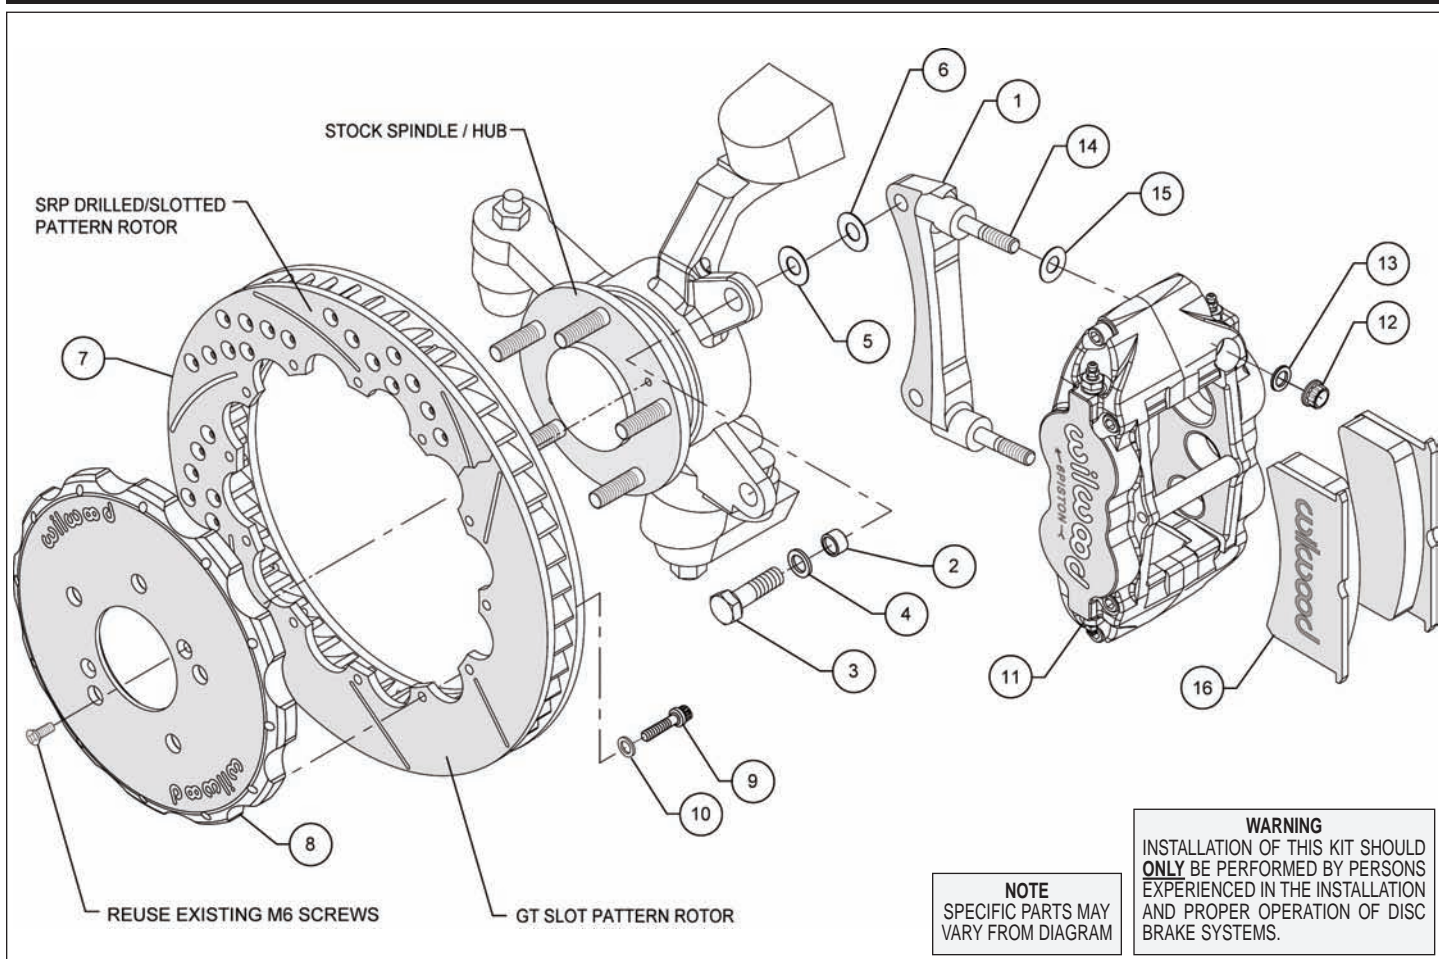

Figure 1. Typical Installation Configuration
- The caliper mounting bracket assembly (1) should be installed first with clean, dry threads on the mounting bolts. Install the bracket on the back side of the spindle by sliding bolt (3) through washer (4), and through sleeve (2) which will be inserted into the spindle "ears" from the front side of spindle. Place shim washers (5 and 6) between the bracket (1) and the spindle (see Figure 1). The bracket must tighten squarely against the side of the spindle body. Inspect for interference from casting irregularities, machining ridges, burrs, etc. Use one thin shim (5 and 6) between the bracket (1) and spindle during initial trial fitting.
- NOTE:** This kit contains distinct right and left hand calipers that must be mounted in a specific direction, as described below. Lubricate caliper mounting studs (14) and nuts (12) with lightweight oil. Install one shim (15) over each stud (14) on the radial mount bracket (1). Slide the caliper (11) in place over the studs and rotors and install the washer (13) and lock nut (12) to hold the caliper in place, Figure 1. Ensure that the caliper is mounted so that the largest pistons are at the rotor exit end of the caliper, in relation to the direction of rotor rotation. Snug the lock nuts (12) and check that the rotor (7) is centered in the caliper (11). Add or subtract .016" shims (5) and/or .030" shims (6) as necessary between the caliper mounting bracket (1) and the spindle to center the caliper (11) on the rotor (7). Finger tighten and recheck alignment. Use as many shim washers (combination of 5 and/or 6) as necessary to achieve the correct alignment.
- Remove the caliper center bridge pad retainer bolt, nut, and tube from the caliper. Slide the brake pads (16) into place. They should install easily without interference. Check that the outside radius of the brake pad is aligned with the outside diameter radius of the rotor face. Add or subtract shims (15) between the caliper and mount bracket to gain the proper alignment. Reinstall the center bridge pad retainer tube, bolt, and locknut. The locknut should be snug without play in the bolt or tube. Be cautious not to over tighten.
- Once all clearances have been checked, remove the wheel, caliper, hat, and rotor from the spindle and hub. Secure the caliper mounting bracket (1) to the spindle with bolt (3) using red *Loctite*® 271. Torque bolt (3) to 42 ft-lb. Reinstall the hat and rotor assembly and again use lug nuts to hold it in place. Reinstall the caliper (11), torque the caliper nuts (12) to 30 ft-lb.